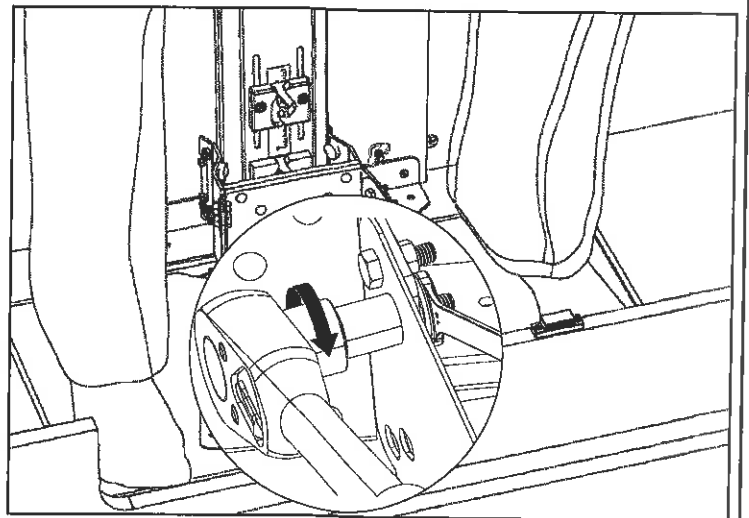

FIG. 18
Step 19. Using 2 people, a 10mm wrench and an adjustable wrench tighten down the 10 mm hexhead bolts (x8) on the metal wings and airlift carriage. To prevent the Platform (P) from rising up as it is being tightened, have the second person stand on the platform while another tightens the 10 mm hexhead bolts (x8) down. The even pressure applied will help the platform to not rise up. Make sure the cabinet is on a level sewing surface. See Fig. 18.